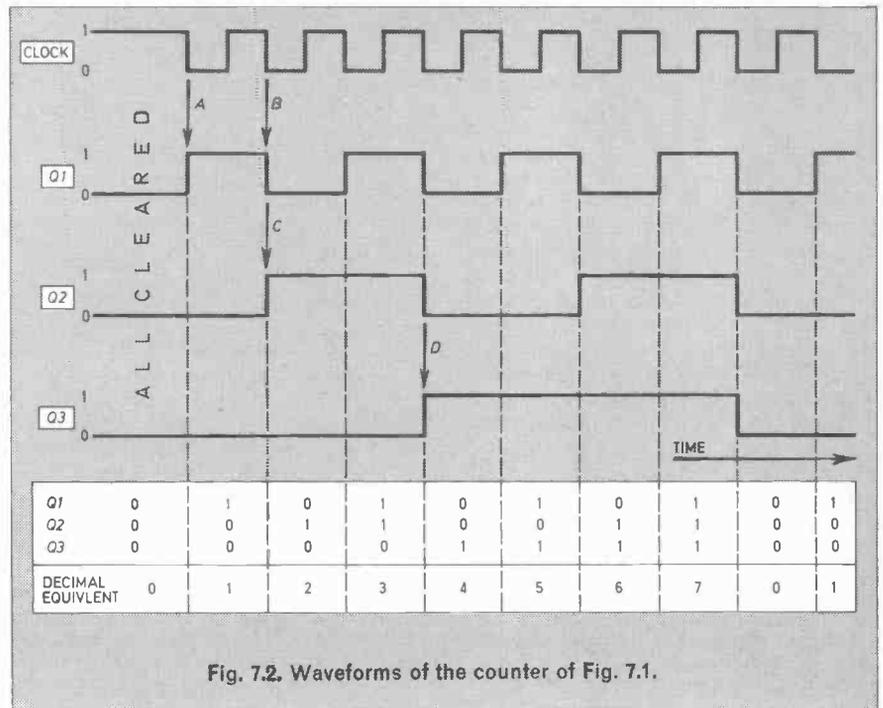

Fig. 7.2. Waveforms of the counter of Fig. 7.1.
Consider what happens as a chain of pulses arrives at the clock input (Fig. 7.2). At the first negative-going edge, flip-flop 1 changes state (A). Nothing happens on a positive-going edge, but on the next negative-going edge (B), flip-flop 1 changes back again. The negative-going pulse from its output (Q1) causes flip-flop 2 to change state (C). As the clock pulses arrive, flip-flop 1 changes state at half the rate of the clock, while flip-flop 2 changes state at a quarter of the rate of the clock. Negative-going edges from Q2 cause flip-flop 3 to change state (D). Thus flip-flop 3 runs at one-eighth of the rate of the clock.
If we consider the outputs to represent a series of "0"s or "1"s, as at the bottom of Fig. 7.2, and read them in the order Q3-Q2-Q1, we obtain a series of numbers in the binary scale. This series has 8 members running from 000 to 111, or from 0 to 7 in the decimal scale. This is a modulo-8 counter. In general, a chain of n flip-flops produces a modulo- 2^n binary counter.